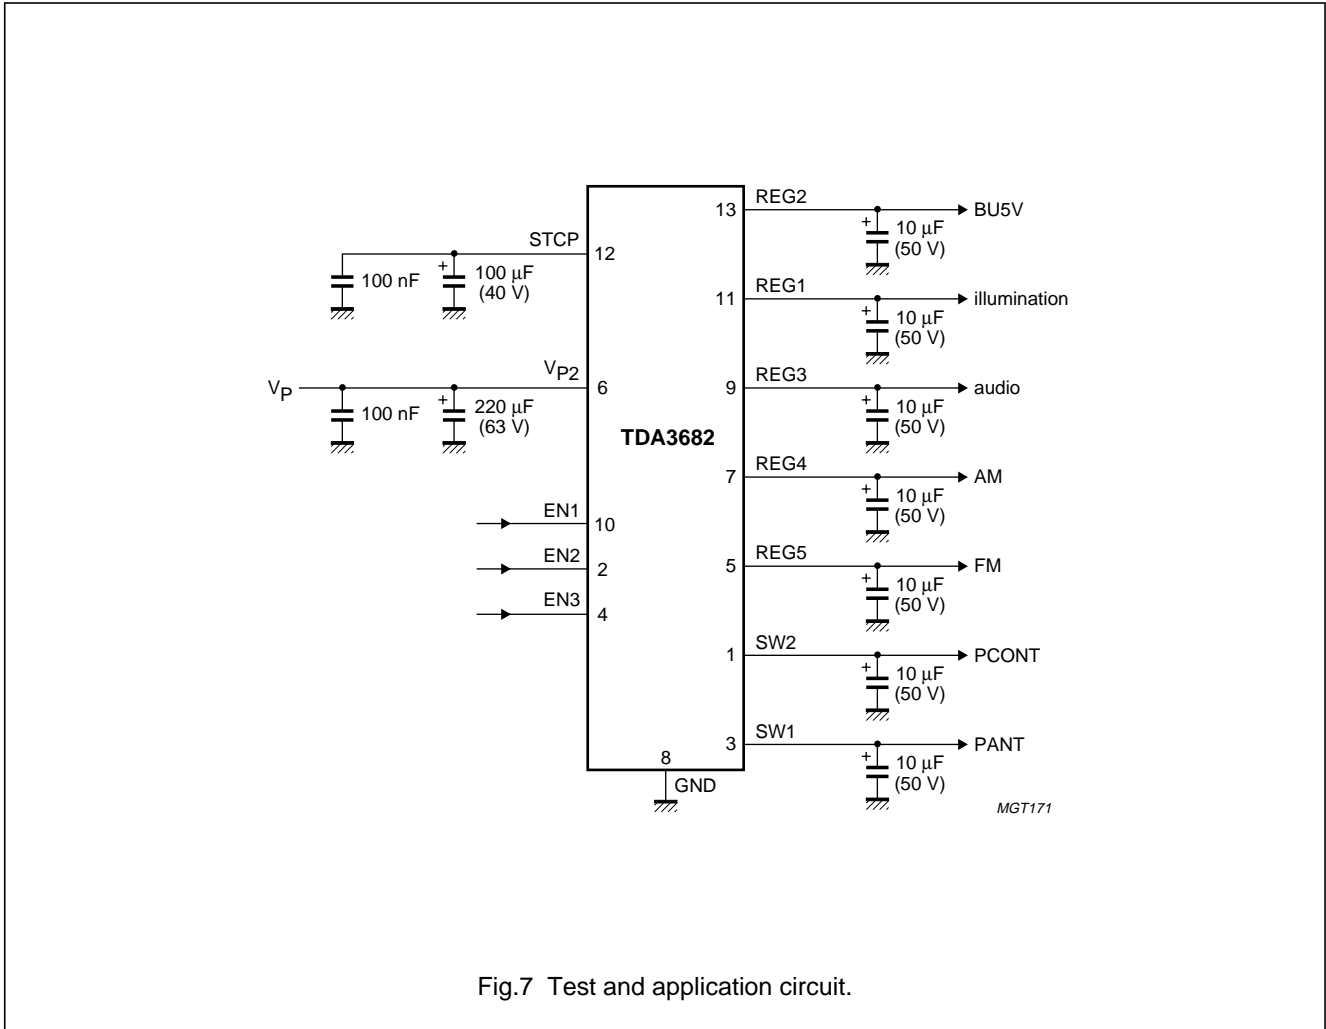

Fig.7 Test and application circuit.
5. The dropout voltage of regulator 2 is the voltage difference between  $V_{P2}$  and  $V_{o(REG2)}$  and depends on the load current (see Fig.7).